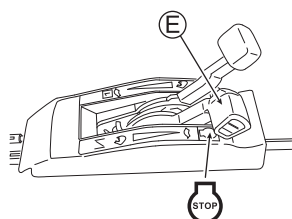

Fig. 24.
6 To interrupt mowing work halfway or finish it, return Drive clutch lever (B) and Blade lever (C), and then set Throttle lever (E) to "STOP" to stop the engine. (See Fig. 24.)